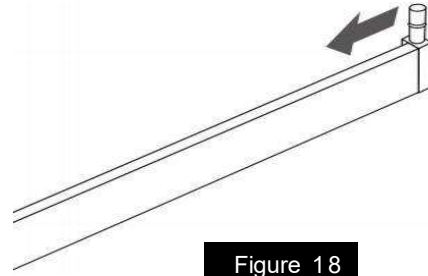

Figure 18
- Slide the stoppers onto the track as Figure 18 from both ends of the track. Place it at the position where door can stop at your desired position.